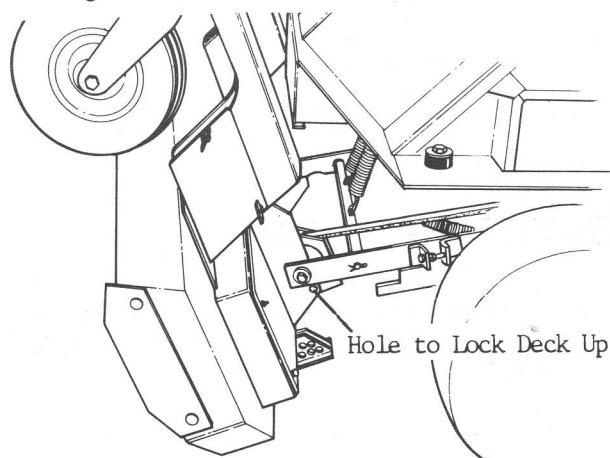

Figure 6
4. Place one of the deck pins in the hole to lock the deck up (Figure 6).